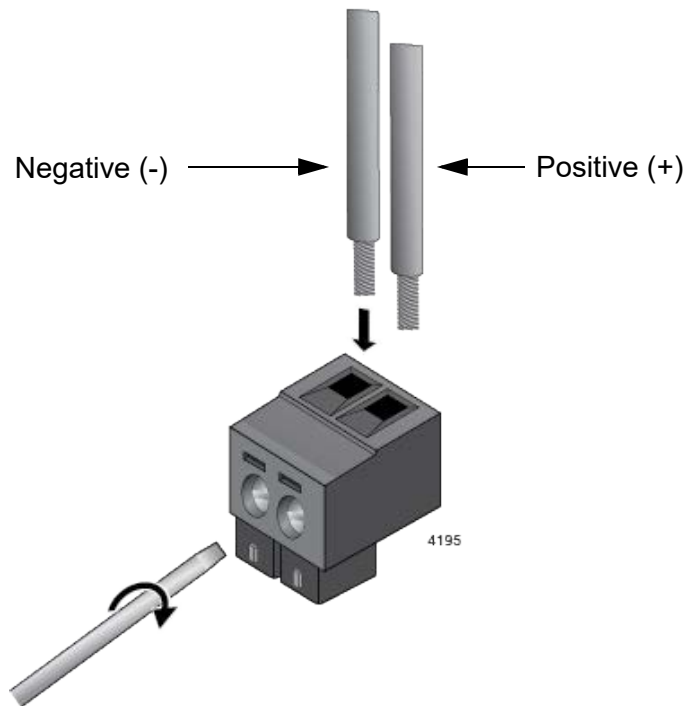

Figure 53. Inserting the Wires into the DC Cable Connector
5. Insert the wires into the connector and tighten the retaining screws to secure the wires. Refer to Figure 53.